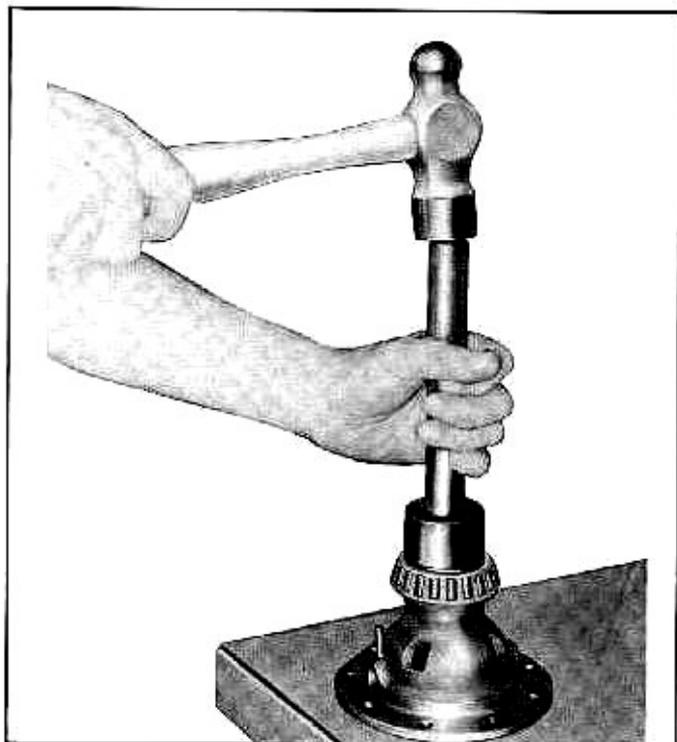

Fig. 7—Installing Differential Bearings
2. Install new bearings on case or cover as required, using Tool J-22175 (Installer) and Driver Handle J-7079-2 as shown in Figure 7.